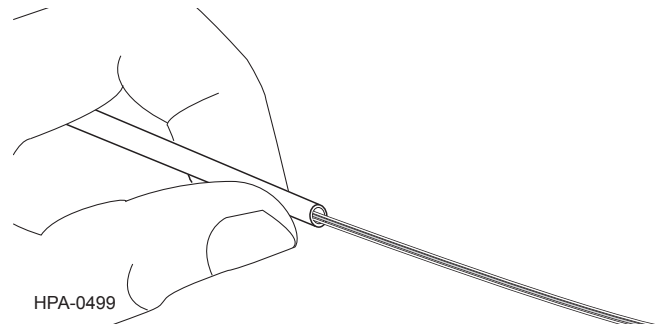

Figure 15
Step 4: Slide the scored section of tube off of the fibers (Figure 15).